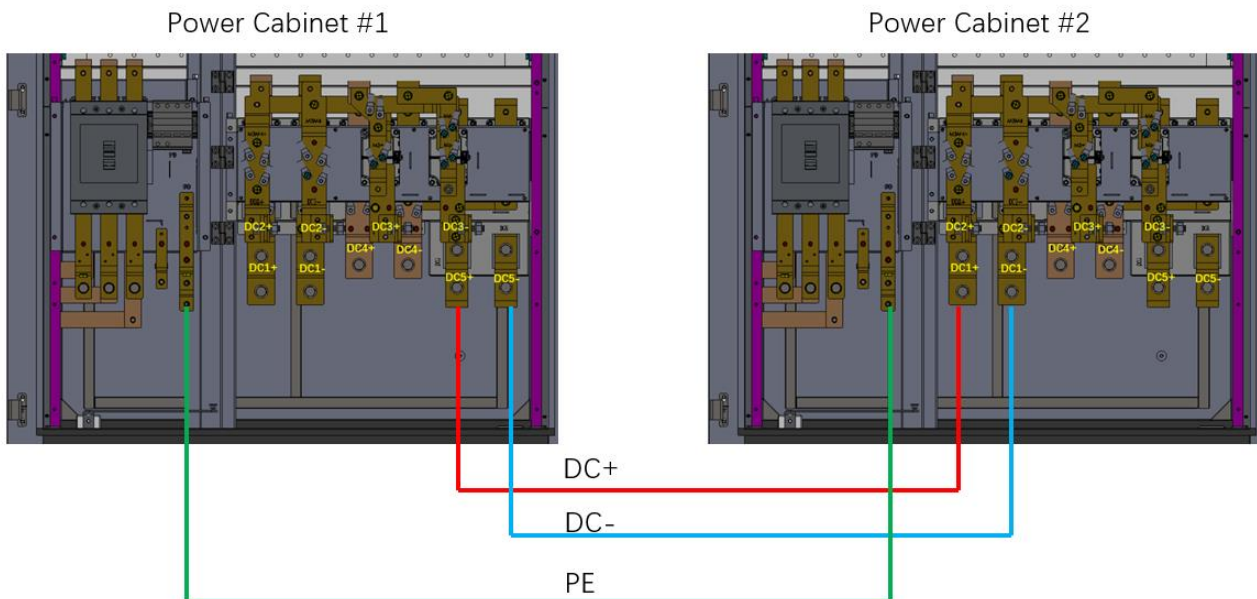

Figure 30 DC cable wiring for two power cabinet in parallel
(3) DC power cable wiring between power cabinets: There are 5 groups of DC+/DC- outlet copper busbars in the power cabinet as shown in Figure 30 which connect to user units. For power cabinet in parallel, connect DC5 of power cabinet #1 to DC1 of power cabinet #2, PE of power cabinet #1 to PE of power cabinet #2.